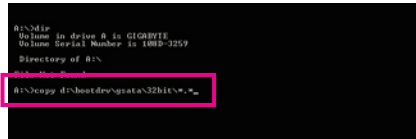

Figure 2
- For the GIGABYTE SATA2, type (Figure 2): ^(Note)